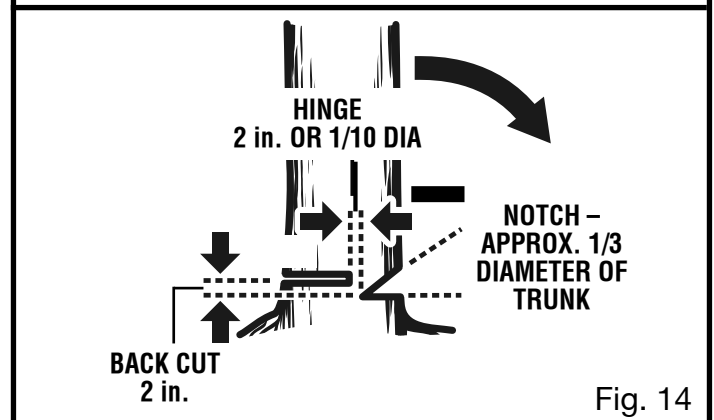

Fig. 14
line. To keep the weight of the wood off the saw, always make the lower cut of the notch before the upper cut. See Figure 14.
- **Felling Backcut.** The backcut is always made level and horizontal, and at a minimum of 2 in. above the horizontal cut of the notch. See Figures 14 - 15.
- Never cut through to the notch. Always leave a band of wood between the notch and backcut (approximately 2 in. or 1/10 the diameter of the tree). This is called “hinge” or “hingewood.” It controls the fall of the tree and prevents slipping or twisting or shoot-back of the tree off the stump. See Figures 14 - 15.